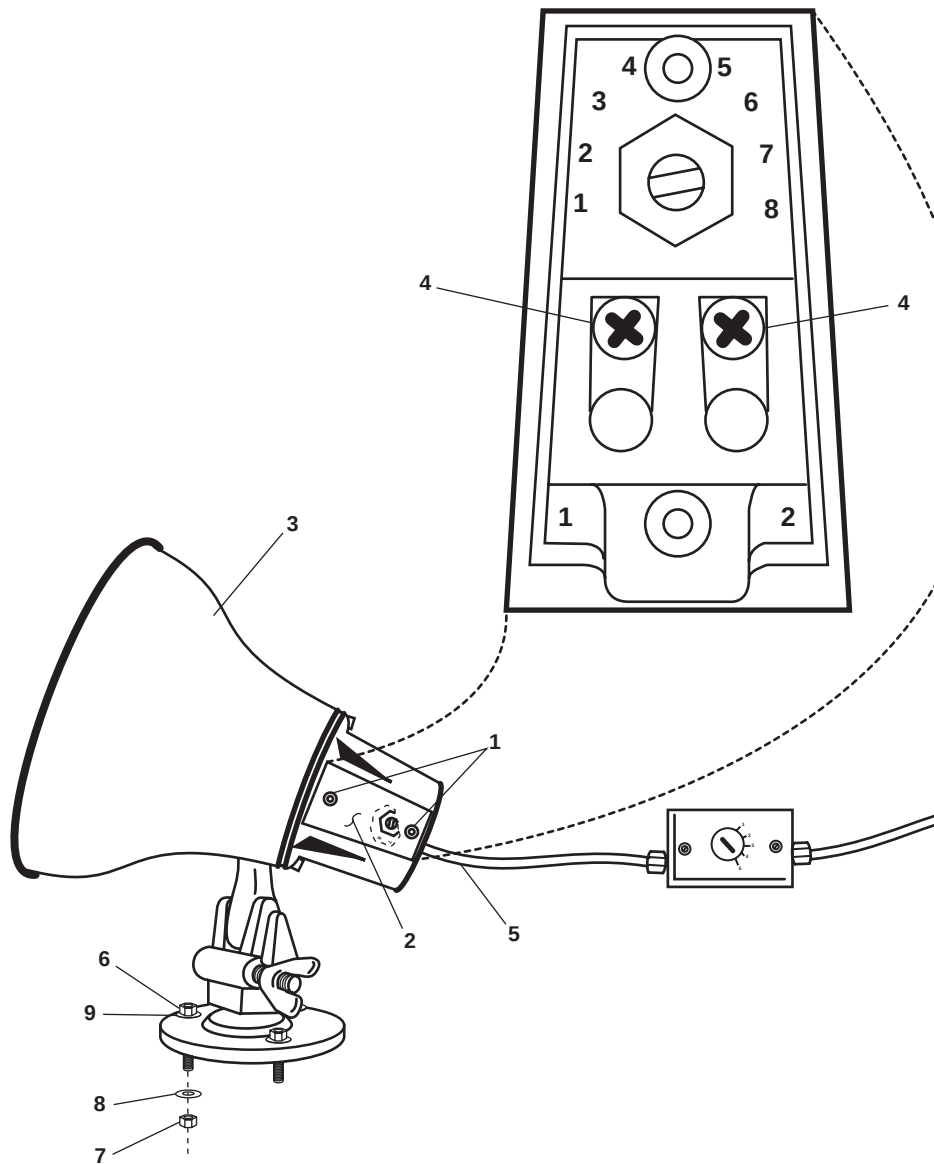

Figure 1. Interior/Exterior Loudspeaker Depiction (Typical)
1. Remove the screws (figure 1, item 1) that secure the cover (figure 1, item 2) to the loudspeaker (figure 1, item 3).
2. Using a multimeter, check for voltage at the terminals (figure 1, item 4). If voltage is present, ensure that the proper circuit breaker is set to OFF, locked out, and tagged out (FM 55-502). If no voltage is present, continue with the procedure.
3. Label and remove the electrical wiring (figure 1, item 5) from the terminals (figure 1, item 4).
4. Remove the bolts (figure 1, item 6), nuts (figure 1, item 7), lockwashers (figure 1, item 8), and flat washers (figure 1, item 9) that secure the loudspeaker (figure 1, item 3) to the bulkhead. Remove the loudspeaker and discard the lockwashers.
1. Install the loudspeaker (figure 1, item 3) on the bulkhead and secure it with the bolts (figure 1, item 6), nuts (figure 1, item 7), new lockwashers (figure 1, item 8), and flat washers (figure 1, item 9).
2. Install the electrical wiring (figure 1, item 5) to the terminals (figure 1, item 4) using the labels from step 3 of Removal as a guide. Remove the labels.
3. Install the cover (figure 1, item 2) on the loudspeaker (figure 1, item 3) and secure it with the screws (figure 1, item 1).
1. Use a multimeter to check for voltage at the wire terminals (figure 1, item 1). If voltage is present, ensure that the proper circuit breakers are set to OFF, locked out, and tagged out (FM 55-502). If no voltage is present, continue with the procedure.